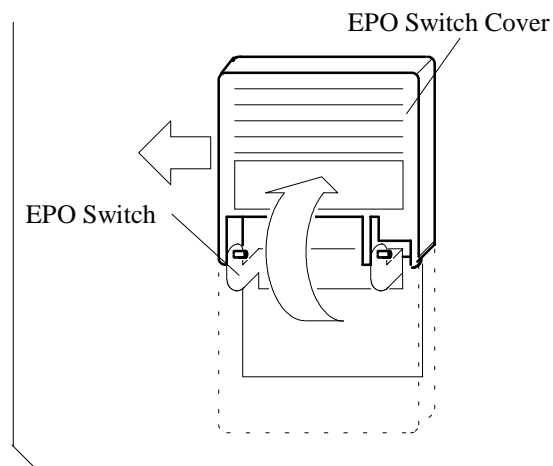

Fig. T2-3 Removal of EPO Switch Cover
- f. Attach the EPO switch cover. Refer to Fig. T2-3.